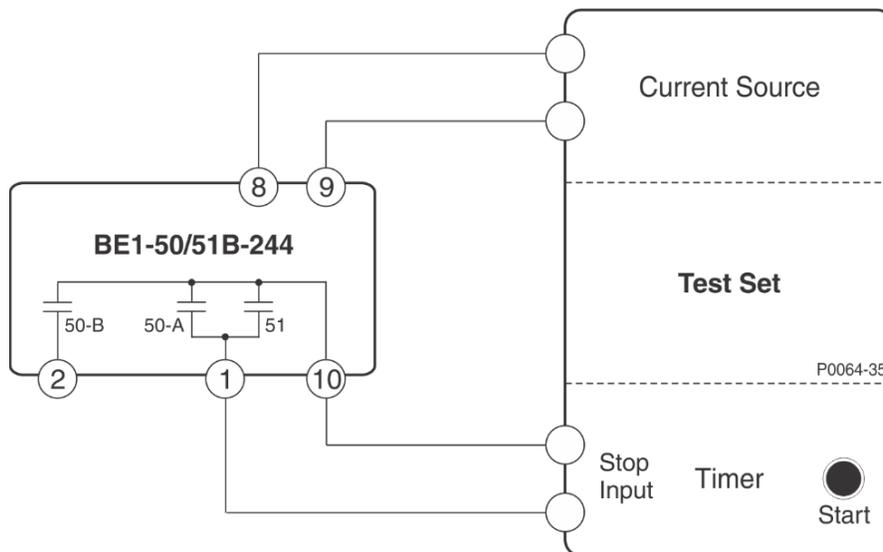

Figure 5-1. 51 Pickup, Time Dial, Integrating Reset, and 50-A Pickup Test Setup
The following test procedure verifies operation of the BE1-50/51B-244 relay. The test setups illustrated in Figures 5-1 through 5-6 are intended primarily as an illustration of the principles involved. Other test equipment known to be capable of testing with the stated and implied tolerances (including equipment designed specifically for testing protective relays) may be used.
- a. Connect the test setup shown in Figure 5-1.
- a. Connect the test setup as shown in Figure 5-1.